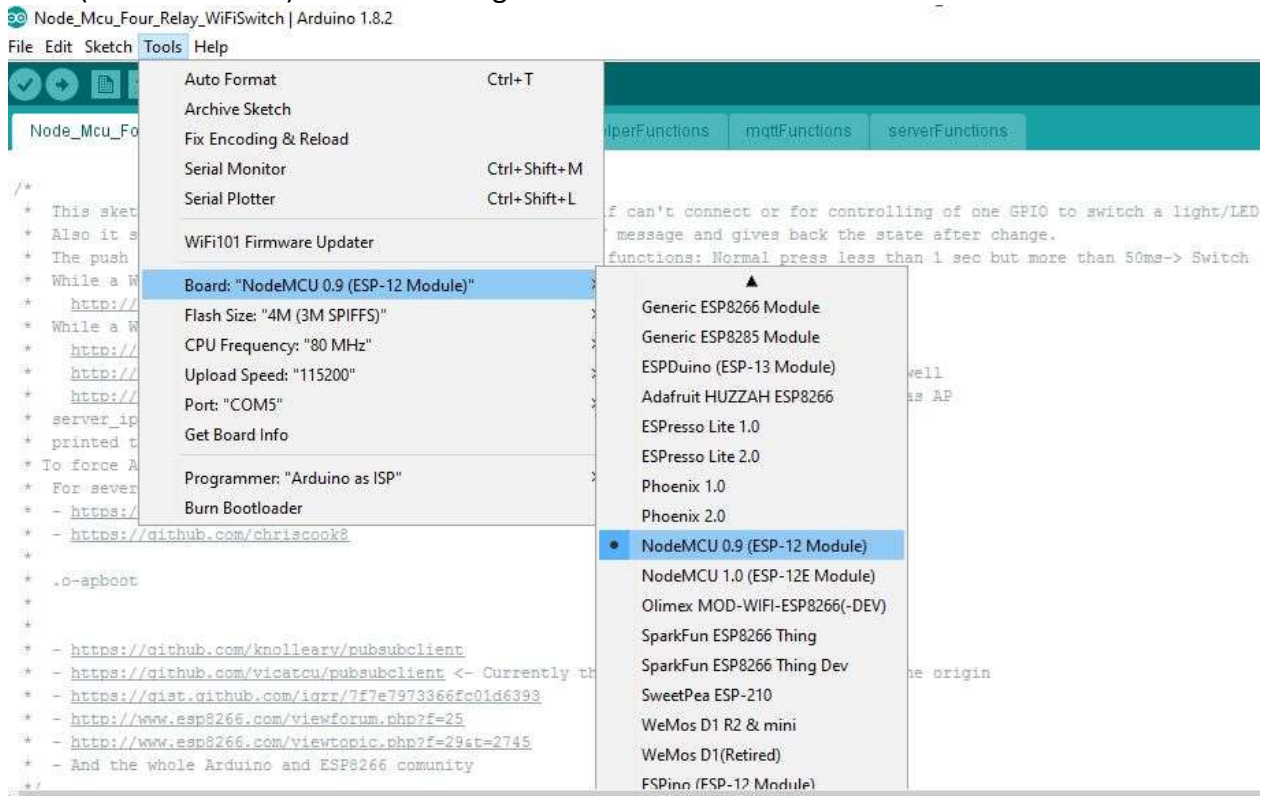

Figure 20: Board Selection
6. Click on tools tab, move mouse pointer to "Port: "COMx", under this click on "COMx" to select. ("x" refers to port number available in your computer) Refer to figure 20.
7. Run the program. Refer to Figure 20.